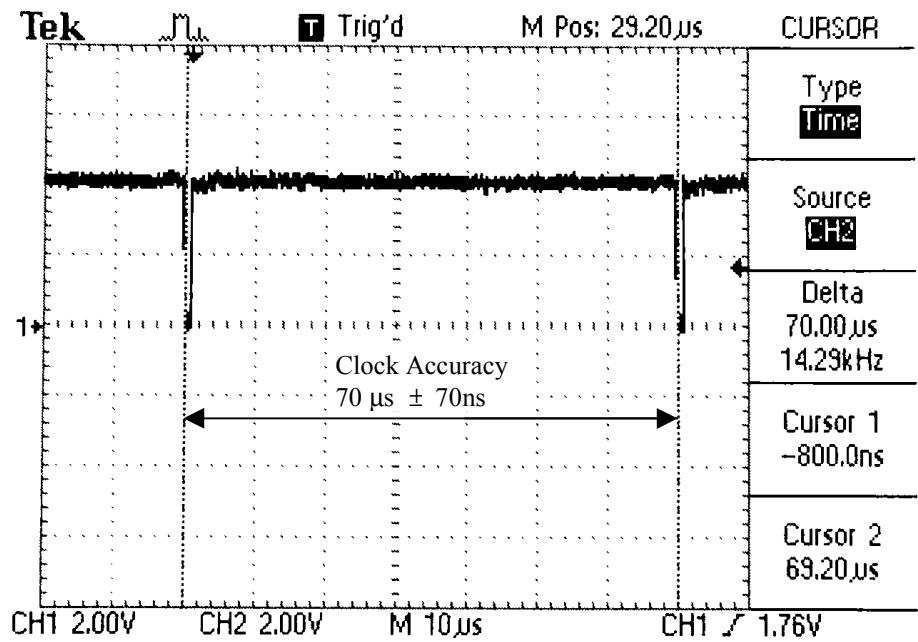

Figure 455-8: Clock Accuracy
9. Measure the time on channel 1, between the falling edge of one pulse to the falling edge of the next pulse. Refer to Figure 455-8 to verify a measurement of $70\ \mu\text{s} \pm 70\ \text{ns}$. This measurement indicates that the clock and dividers are working properly.